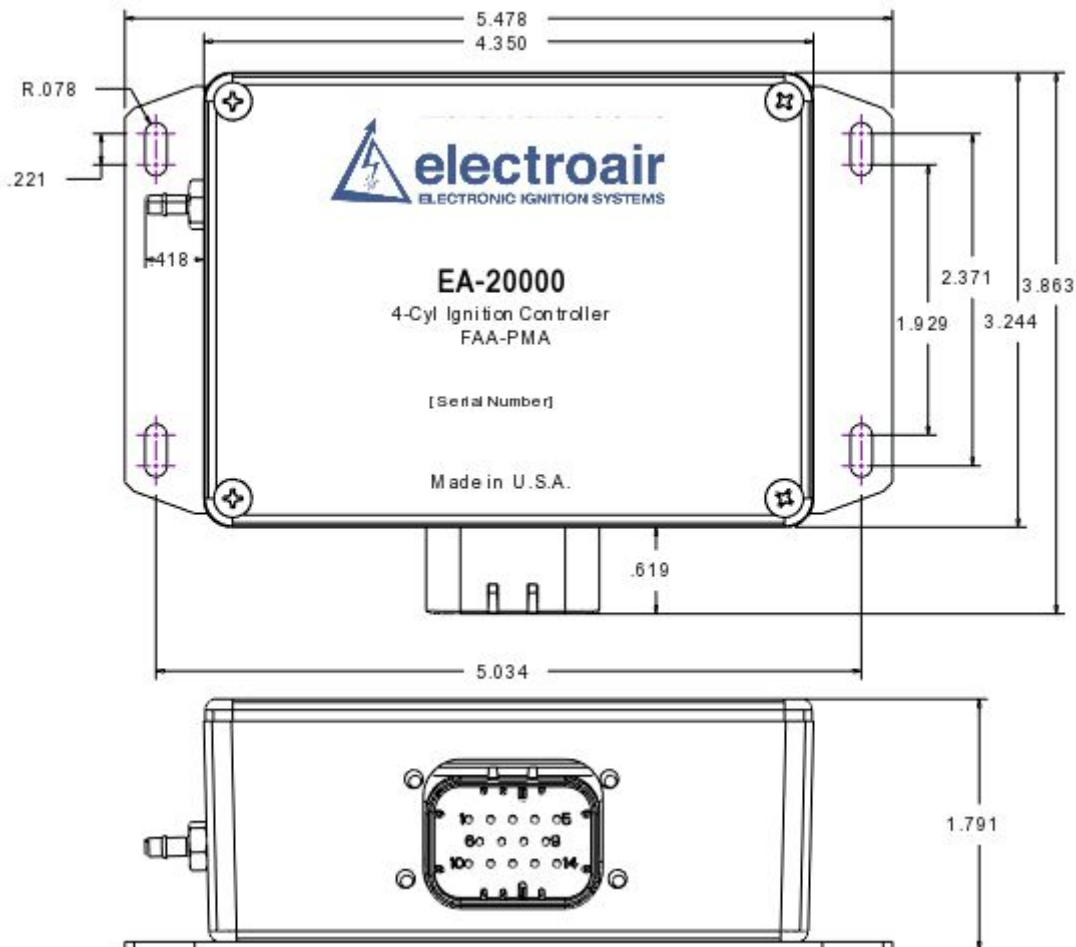

Figure 34: P/N EA-20000 Overall and Hole Dimensions
- a. **EA-20000 Installation:** Install both (four for Dual EIS) p/n: EA-20000 EIS Controllers where temperatures will not exceed 150°F. Electroair recommends that the EIS Controllers be mounted on the cool side of the firewall with the shortest practical distance from their respective coil packs for the wiring harness runs. Note: Some twin-engine airframes have open space inside the nose of the airframe. The controller could be placed on the nose side of the bulkhead which separates the cabin from the nose. Reference Figure 34 for controller dimensions.